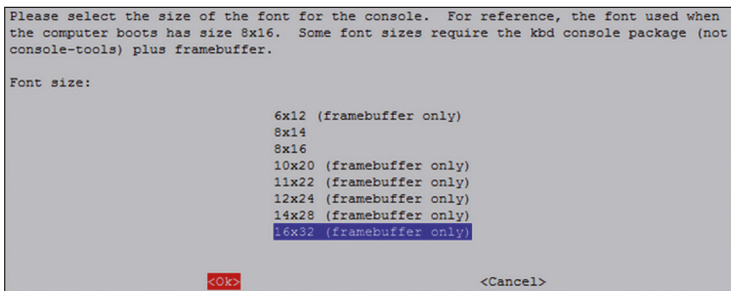

Figure 1.7: Select font 16x32.
- Select font **16x32** (Figure 1.7)